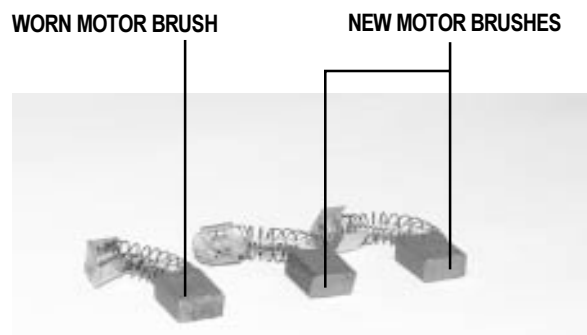

Figure 18. Motor Brushes
4. Inspect for wear. See figure 18.